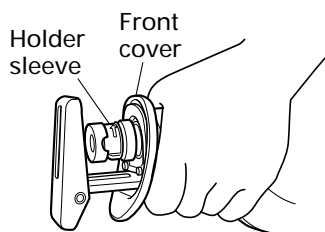

Fig. 5
- (1) Turn on and off the switching trigger several times so that the holder sleeve can jump out of the front cover completely. Thereafter, turn off the switch and remove the battery. (Fig. 5)
- Do not remove the front cover (refer to Fig. 5). Be sure to hold the body from the top of the front cover.